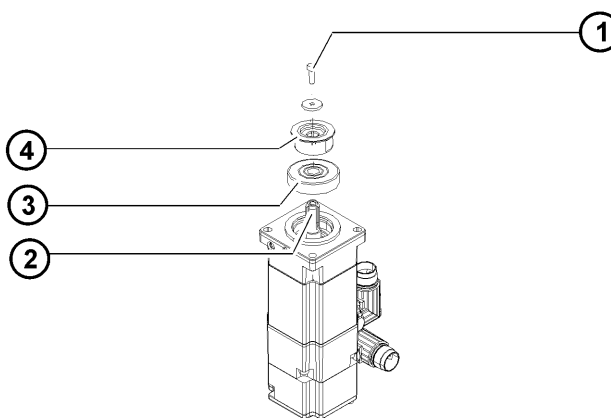

Fig. 11-14: Motor with toothed belt pinion
5. Remove the Allen screw (>>> Fig. 11-14) and take off the disc.